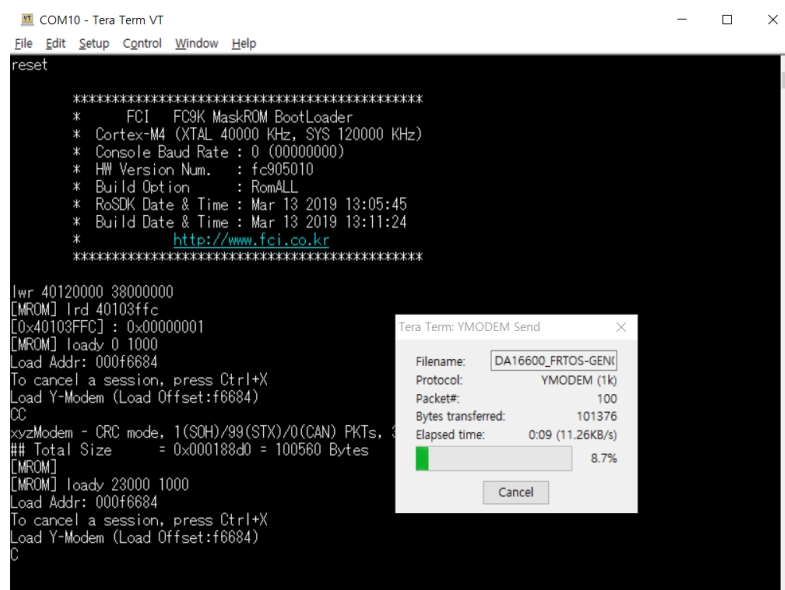

Figure 26: Download RTOS image
3. RTOS image is downloaded automatically (see Figure 26).